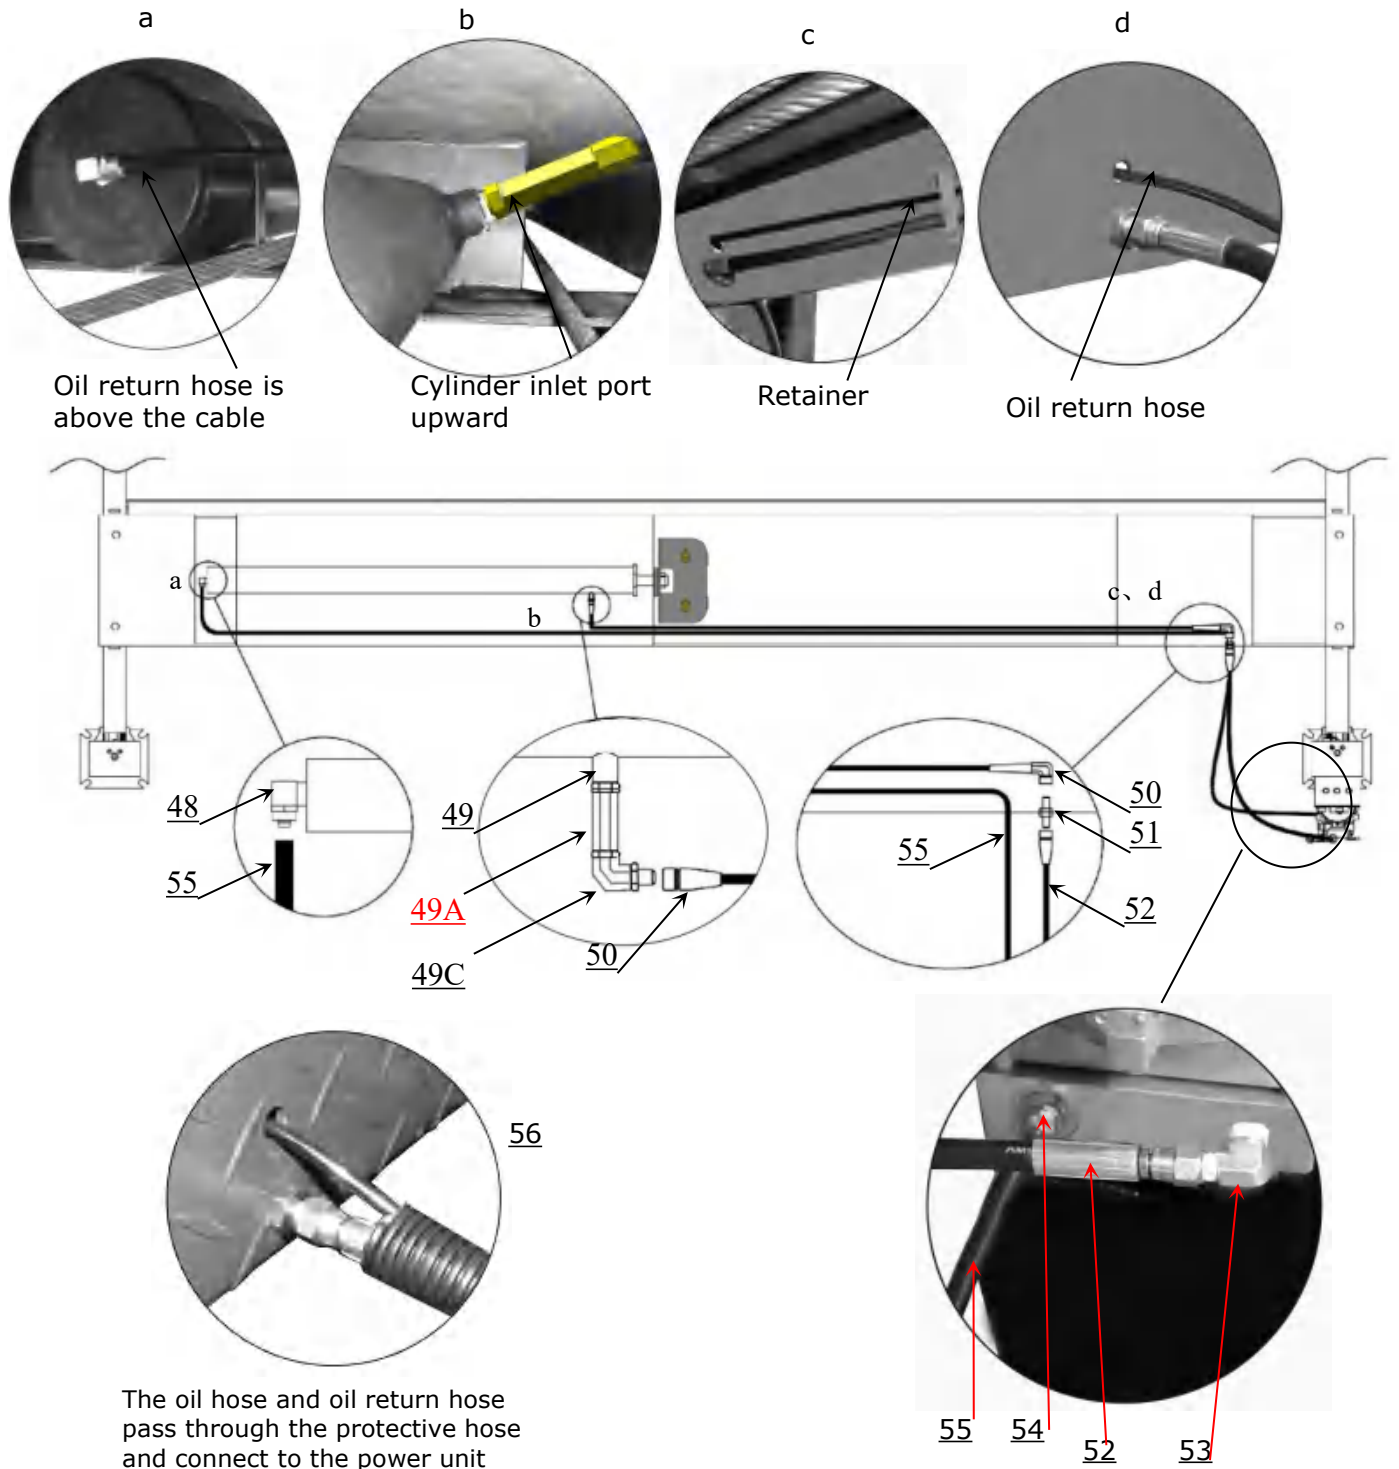

Fig. 25
1. For power unit install to the column at the side of cross beam **A** (See Fig. 25)